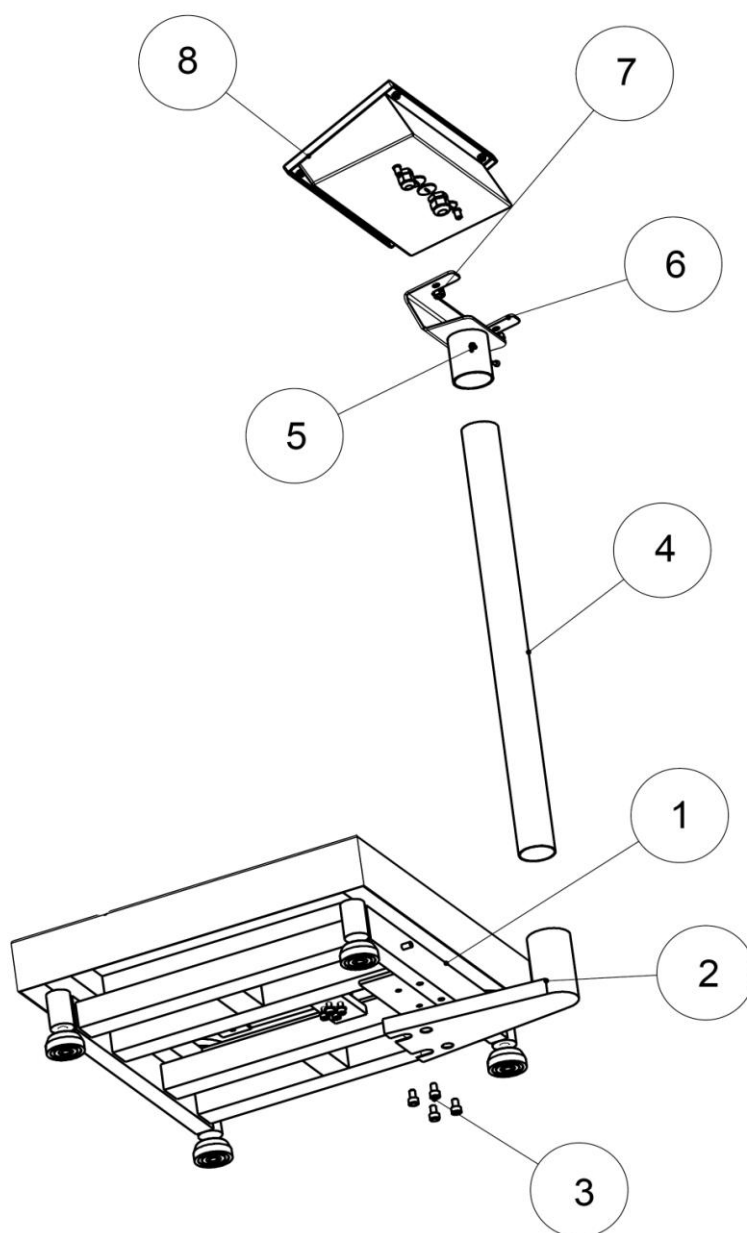

Fig.2
2.2 ASSEMBLING PBI+PBICL...+PBICLST+DFWLI (FIG.2)